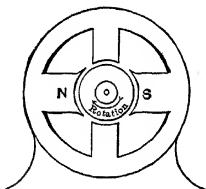

Fig. 245. Diagram of pole structure of two-pole motor with commutating poles.
**Prob. 56-9.** Show a magnetic path in the commutating pole motor, Fig. 245, with 2 main poles. Mark the polarity of the commutating poles.
**Prob. 57-9.** Show the winding of all poles of the motor in Fig. 245, and the direction of current in the windings.
**Prob. 58-9.** If the machine in Fig. 245 is to run as a self-excited shunt generator, show: